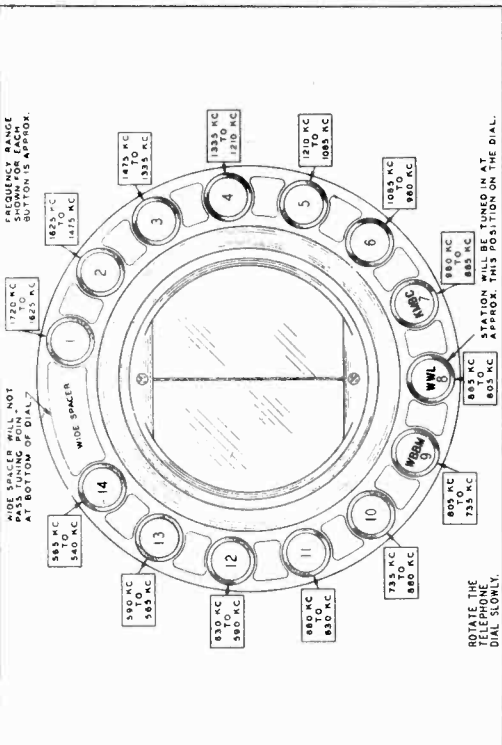

Fig. 11—Telephone Dial Station Buttons
- 3 — The button nearest the bottom center of the dial will be the proper one for the station which is tuned in. In Fig. 11 button No. 8 is the correct one for station WWL.
- 7 — Punch the correct station disc from the sheet supplied and push the disc into the bottom of the button. It will fit into place at the bottom. It should be so pushed in that when the button is at the bottom of the dial the wording will be horizontal—See Fig. 11.
In Fig. 11 are shown the telephone dial buttons. Each one is